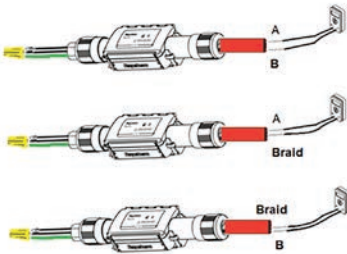

Figure 25:
5. A resistance reading should be taken for each bus wire to braid and then bus wire to bus wire. Braid to A should equal Braid to B, A to B will be slightly higher. (Figure 25)